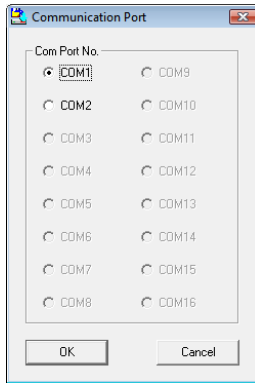

Figure 34 Com Option box
- To change the Com Port from the Options menu choose Com Port. The Com Port Dialog box appears. See Figure 34.